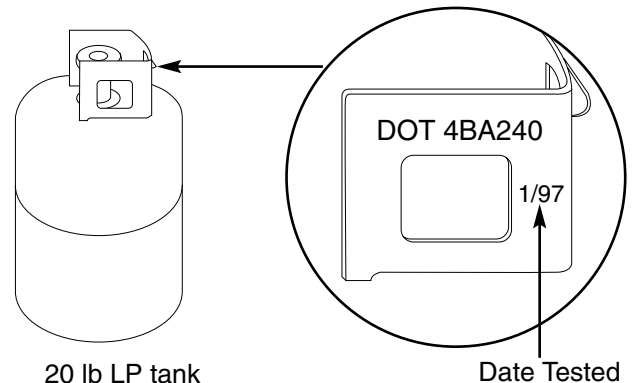

Figure 7
- Replacement LP tanks supplied by Weber satisfy the requirements. Check to be sure the tank has a D.O.T. certification, and has been tested within five years. Your LP gas supplier can do this for you. Figure 7.